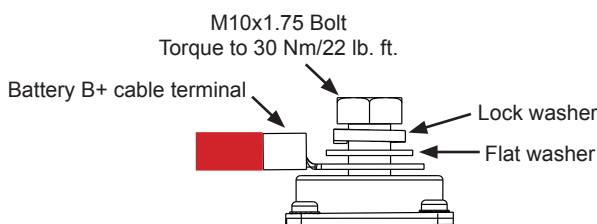

Figure 3: B+ Output Terminal Hardware Stacking Order
5. Connect vehicle B+ cable to alternator B+ terminal and install hardware in stacking order shown in Figure 3. Torque hardware to 30 Nm/ 22 lb. ft.